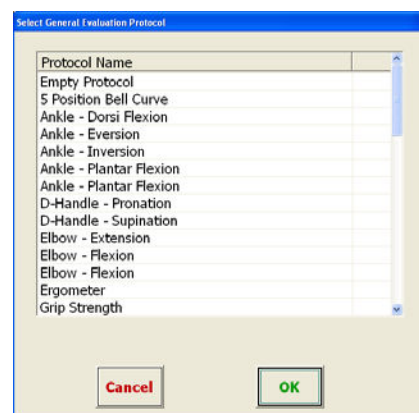

Figure 4d
- Choose a pre-defined template from the list in the “Select General Evaluation Template” box (Figure 4d). Click “OK.”
- Select “Empty Template” from the General Evaluation Template list (Figure 4d). Click “OK.”
- b. Touch the name of an existing template to select (Figure 4d). Click “OK” at the bottom of the dialog box to return to Evaluation Setup.
- Select “Empty Template” from the general Evaluation Template List (Figure 4d). Click “OK.”
- b. Select an existing template. Click on the template and touch “OK” (Figure 4d). Notice that the template name is displayed in the text field directly underneath the *Evaluation* tab.